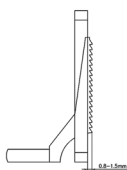
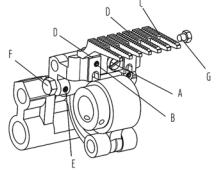

图27 (Fig.27)
图28 (Fig.28)
送布牙(C)升至最高点时，送布牙齿顶与针板面的距离为0.8-1.5mm，平均为1.2mm。(图27)
送布牙的调整：(图28)
- 3.将高度固定销(D)的固定螺钉(B)松开，调整固定销直到送布牙的底部再锁紧螺钉(B)。(图28)
When feed dogs (C) move to the highest position, the distance from the tips of feed dogs to the face of Needle plate is 0.8-1.5mm. The average is 1.2mm (Fig.27). For adjustment: (Fig.28)
1. Loosen screw (A) on Feed Dog (C).
2. Move Feed Dog (C) up and/or down to meet above requirement then tighten screw (A).
3. Loosen screw (B) and move stop pin (D) upward to the bottom of Feed Dog (E), then tighten screw (B) (Fig.28)
送布牙上升至最高时应与针板平行(图27)。调整:
夹紧螺栓(F), 将螺帽(G)放松, 调整送布牙螺钉(E), 使送布牙(C)与针板平行(图28)再锁紧螺帽(G)。
When the feed dogs are at the highest position they should be parallel to Needle plate surface (Fig.27). For adjustment:
Holding screw nut (F) firmly and loosen screw (G) then to adjust screw (E) for the teeth surface of Feed Dogs, is paralleled needle plate (Fig.28)